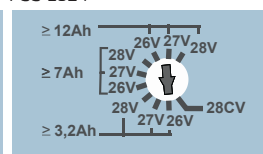

Fig. 5
Use the rotary switch (5) to set the connected energy storage device to the desired charging voltage (Fig 5 + 6).